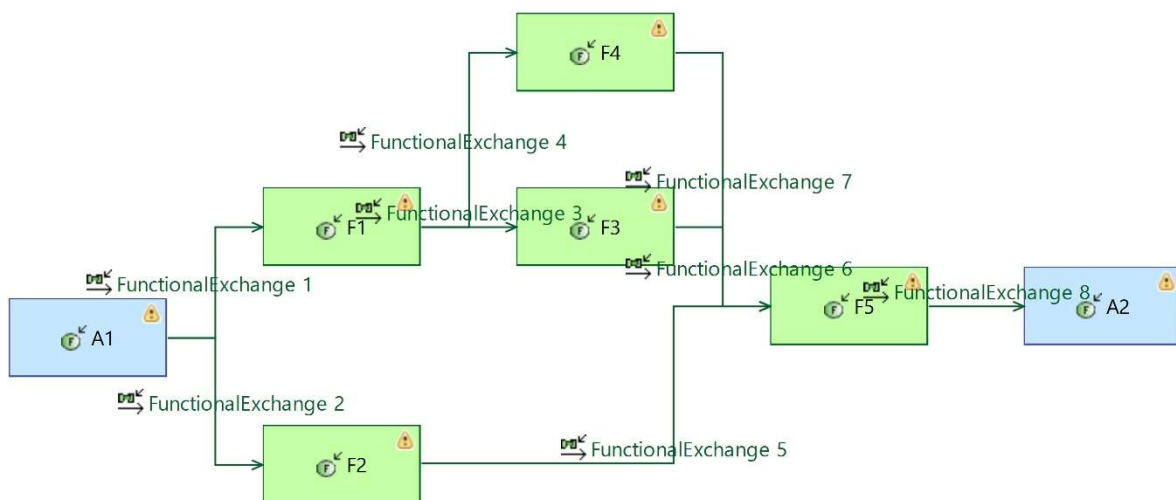

Figure 3 Functional Chain Description
- Press [Right Mouse Button] on the name of the Functional chain (e.g., FunctionalChain 1), choose New > Functional Chain Description; choose a name, e.g., default *[LFCD] FunctionalChain 1*. See Figure 3. Note that warning and errors might appear; they can be resolved later.